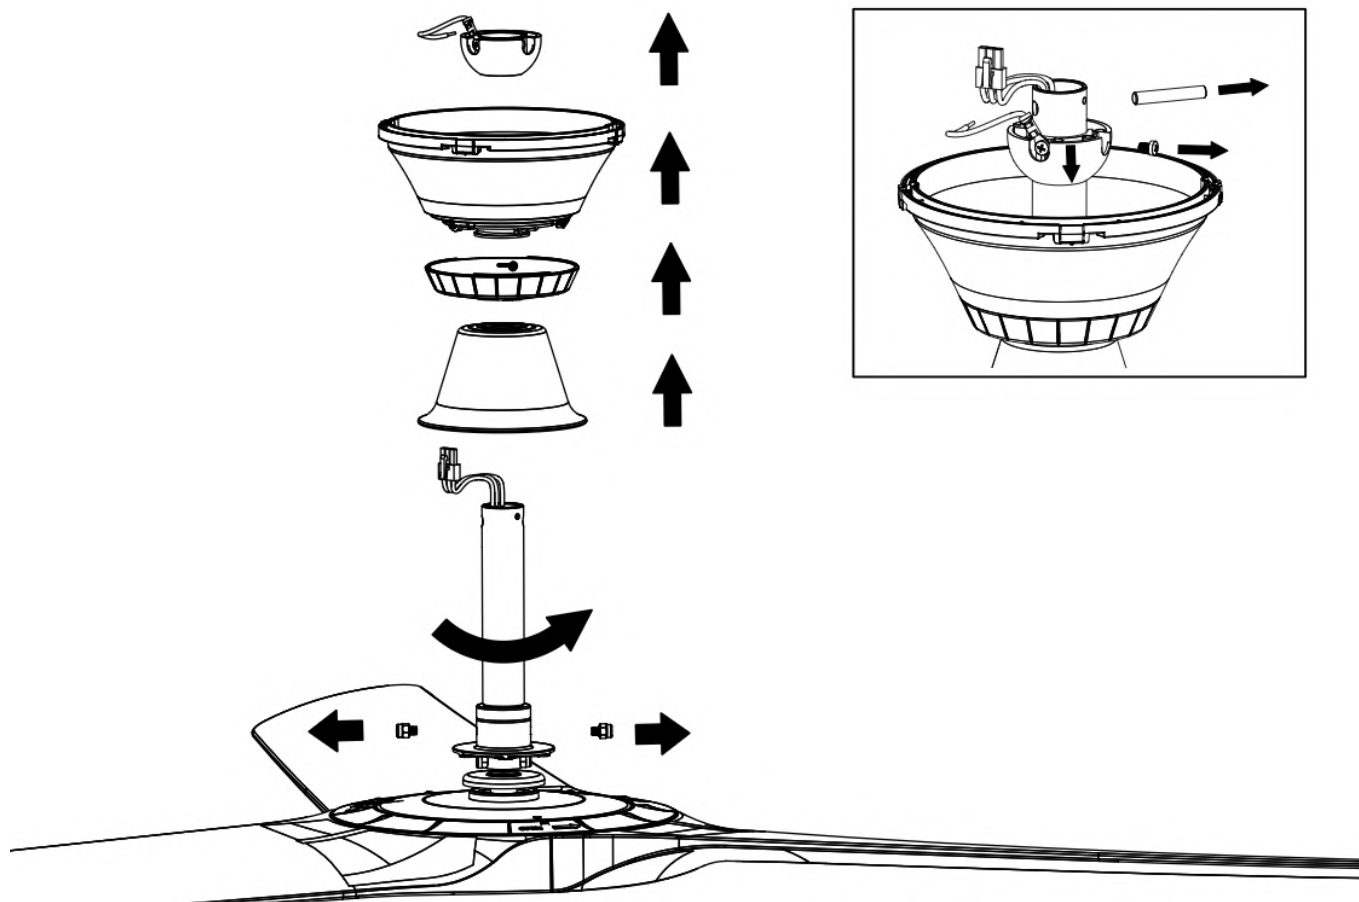

Fig. 9.1
1. Uninstall the ball joint, canopy, canopy bottom cover & the down rod joint cover from the fan assembly; (Figure 9.1)